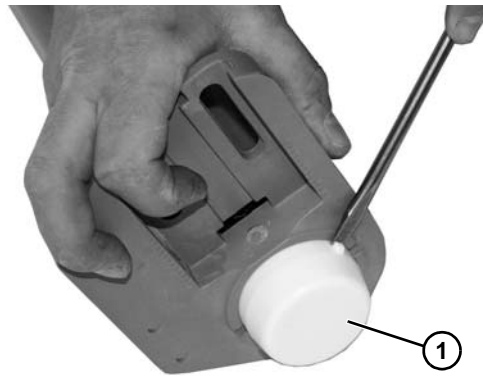

Figure 73
5. Remove the bearing cover (**Figure 73, item 1**).